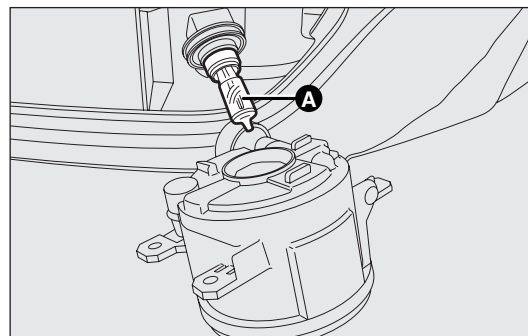

fig. 145
- remove the bulb A-fig.145 by rotating it anticlockwise and disconnect the electrical connector.